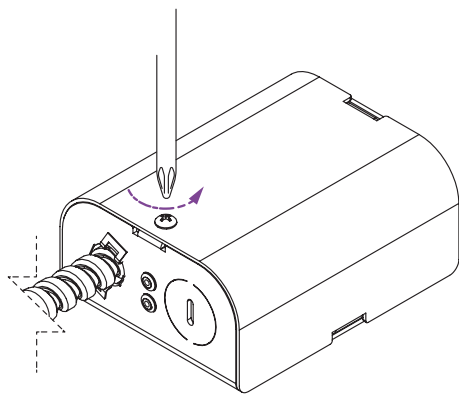

fig. 10
1. Using a #2 Phillips screwdriver, remove the screw holding the junction box cover in place (see fig. 10).